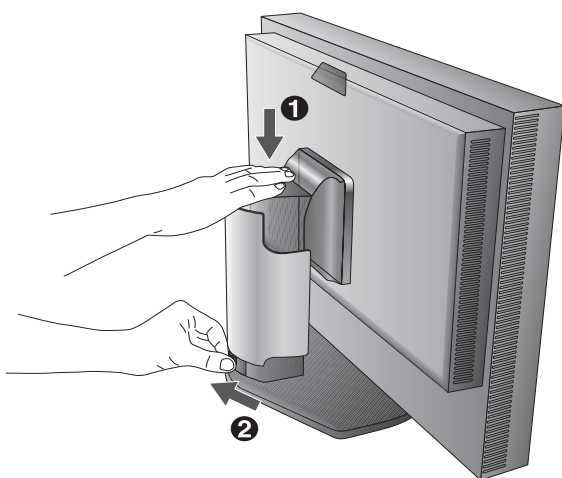

Figure B.1
3. Height adjustment is locked by lock button. Place hand on top of the monitor to push down the screen to the lowest position. Slide the lock button to unlock the stand to raise the monitor head (Figure B.1).